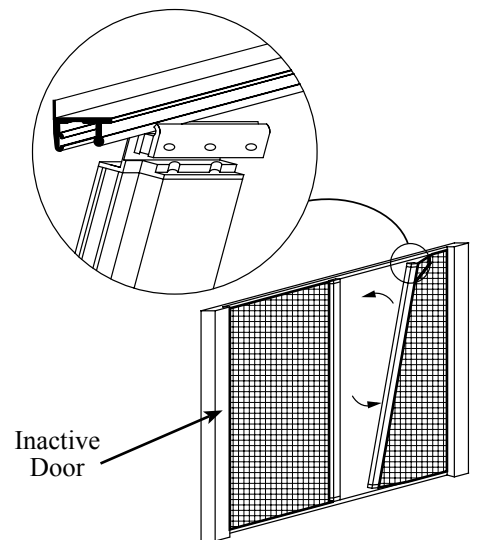

Figure 11
Carefully... and while making sure the screen is properly guided within the top and bottom tracks, pull on the center of the drawbar until approximately two (2) feet of screen is exposed. Line up the top drawbar guide with the top track, and the bottom drawbar guide with the bottom track (*this will require the drawbar to be at a slight angle*) and "snap" into place (Figure 11). Allow the screen to retract back into the housing. Test for smooth operation.